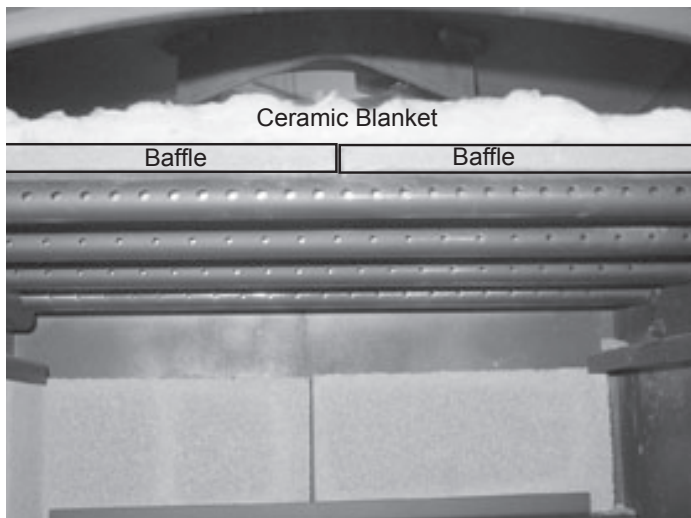

Figure 24.2
4. Slide the tube channel assembly to the left as far as it will go and lower the right side. Remove the baffle boards and ceramic blanket together. **Figure 24.2**.